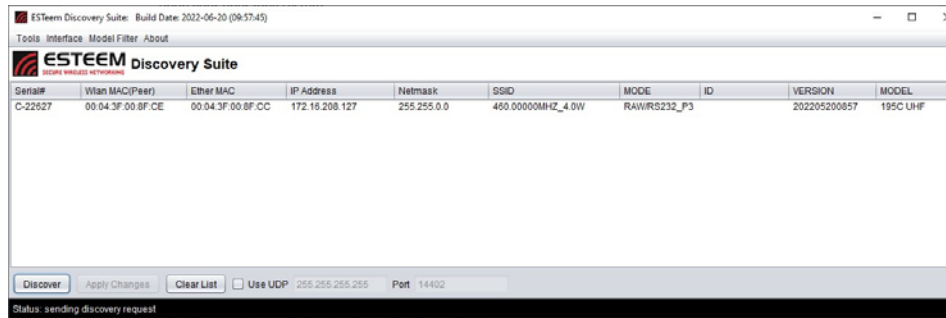

Figure 2: ESTEEM Discovery Utility
4. The ESTeem 195M/H/C will be displayed (Figure 2). If the ESTeem 195M/H/C is not on the same IP subnet as the computer, double click on the IP, Netmask or Gateway and make the necessary changes. Press the *Apply Changes* button when complete.